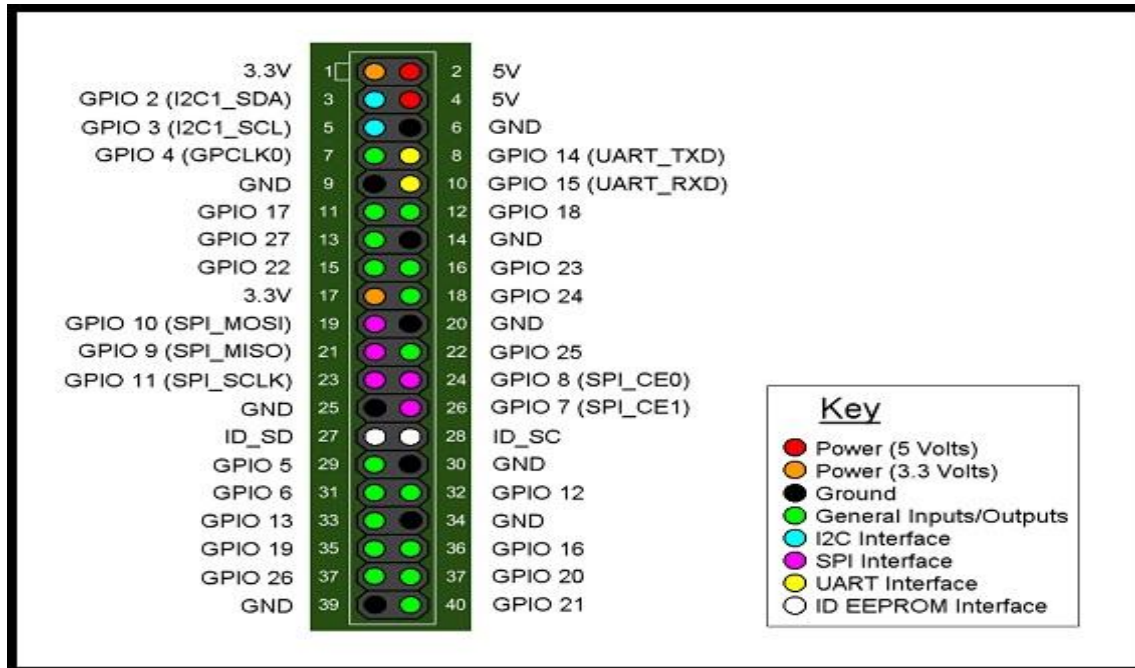

Fig: 2 Pin Diagram of GPIO [6]
- The GPIO (general purpose input and output) pins on the Raspberry Pi are the main way of connecting with other electronic boards. It consists of 40 pins arranged in two rows containing 20 pins each. The left row contains the even-numbered pins, and the right row contains the odd-numbered pins (Fig 2)